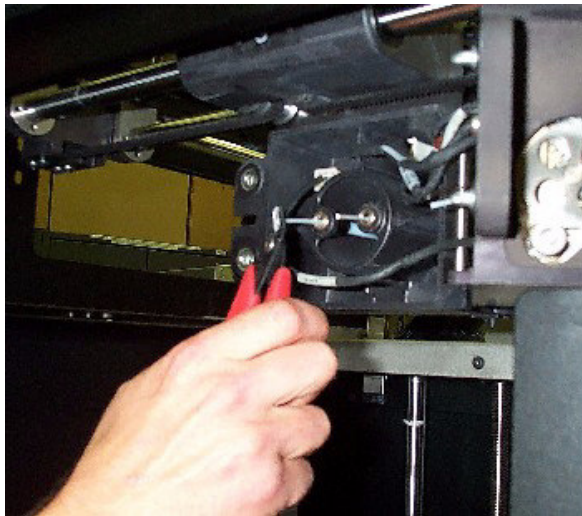

Figure 21: Materials coming out of feed tubes
Both material filaments must be coming out of the feed tubes at the back of the head (see Figure 21) and still be going into the drive block funnels in the front half of the head in order to proceed with this step. If not, skip to step 4.
4. Snip both filaments approximately 1 inch from the fixed part of the head (see Figure 21).